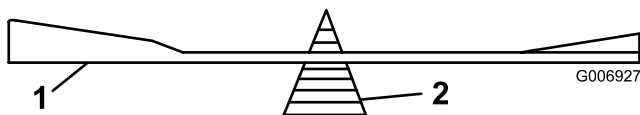

Figure 34
2. Check the balance of each blade by putting it on a blade balancer (Figure 34). If the blade stays in a horizontal position, the blade is balanced and can be used. If the blade is not balanced, file some metal off of the back side of the blade. Repeat this step until the blade is balanced.